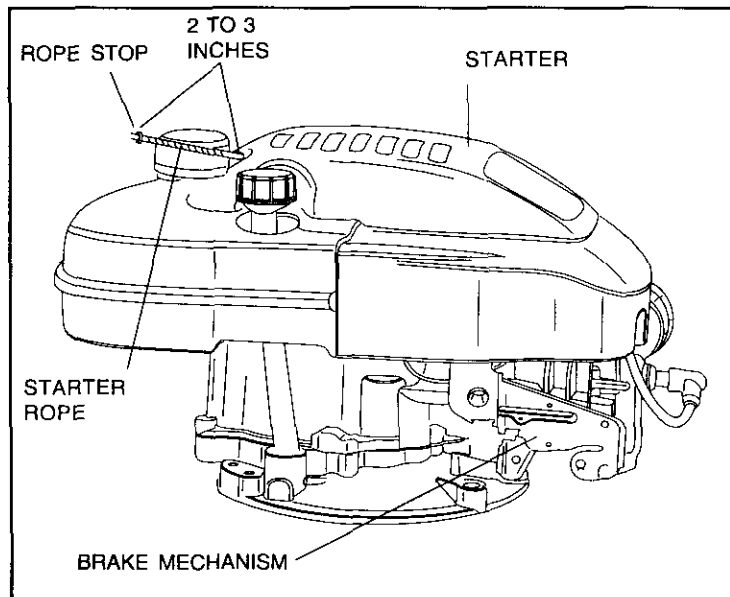
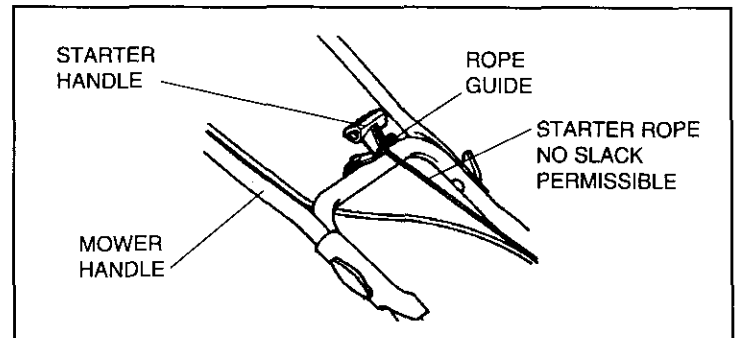

Figure 2
Figure 3
- Slide rope stop (see Figure 2) onto starter rope and feed starter rope through rope guide on mower handle (see Figure 3).
- With starter handle resting on rope guide (see Figure 3), check starter rope for slack. If there is any slack, pull more starter rope through starter handle and relocate left hand knot to eliminate slack.
- Position rope stop 2 to 3 inches from starter (see Figure 2) and fasten it to starter rope by gripping it with pliers and forcing staple through starter rope until staple is even with outside of rope stop.
B. Grasp starter handle (see Figure 3) and pull rope out, slowly, until it pulls slightly harder. Let rope rewind slowly. Then pull rope with a rapid full arm stroke. Let rope rewind **SLOWLY**. Do not let starter handle snap back against rope guide (see Figure 3).